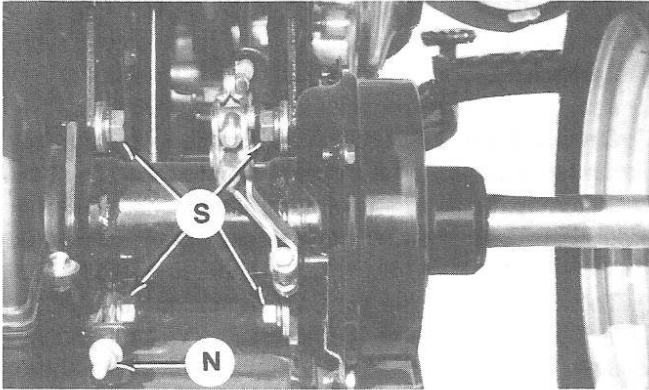

Fig. K1-24—Loosen rear housing retaining screws (S) and rotate adjusting nut (N) to adjust chain tension.
To adjust chain free play, loosen chain adjusting nut (N—Fig. K1-24). Loosen rear axle housing retaining screws (S). Tighten adjusting nut (N) to reduce chain free play or loosen nut to increase chain free play. Note that if chain is excessively worn, adjustment may not be possible. Retighten axle housing screws to 59 N·m (43 ft.-lbs.) on KLT models and 54 N·m (40 ft.-lbs.) on KLF models. Recheck chain free play after all fasteners are tightened.